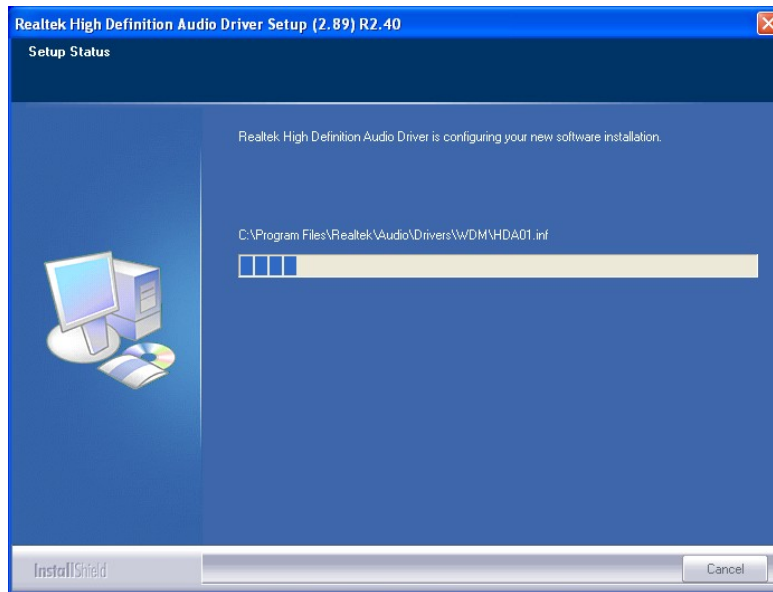

Figure 6-19: Audio Driver Installation
Step 6: The audio driver installation begins. See **Figure 6-19**.